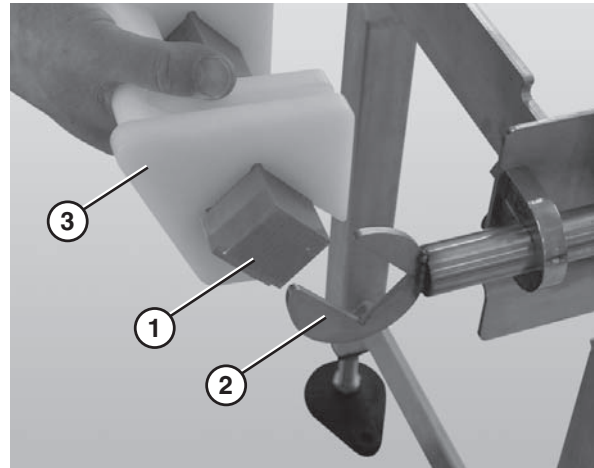

Figure 64
1. Slide the nose bar drive or transfer post (**Figure 64, item 1**) out of the nose bar drive weldment or idler hands (**Figure 64, item 2**).
2. Remove the nose bar tracking pucks (**Figure 64, item 3**), if applicable.